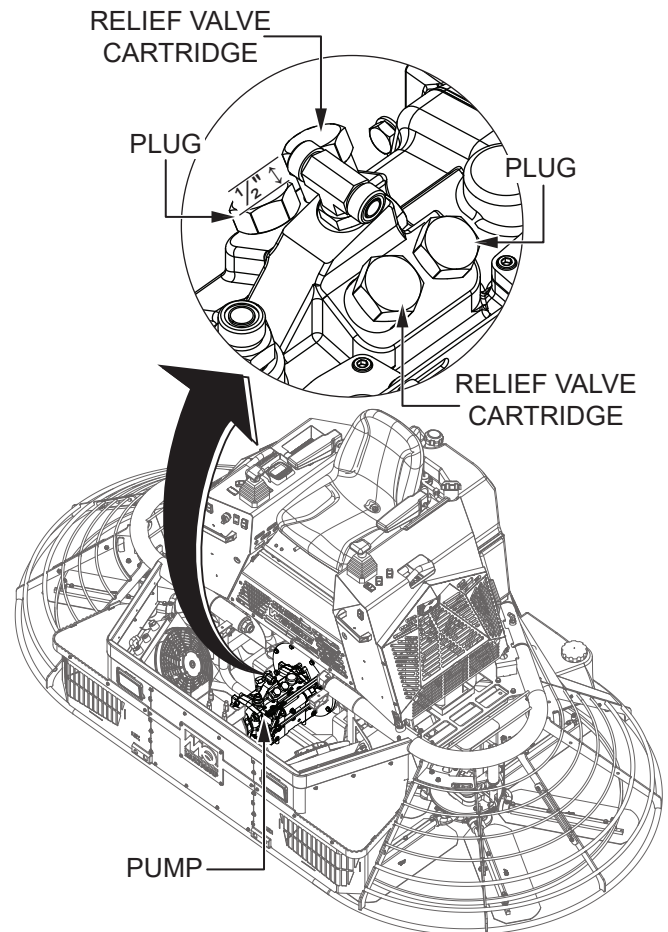

Figure 5. Relief Valve Cartridge Location
1. Locate the two relief valve cartridges (Figure 5) on top of the pump assembly.
Each relief valve cartridge sits next to a plug that is nearly identical to it. **DO NOT remove these plugs!** The relief valve cartridges to be removed are approximately 1/2-inch longer than the plugs sitting next to them. See Figure 5.